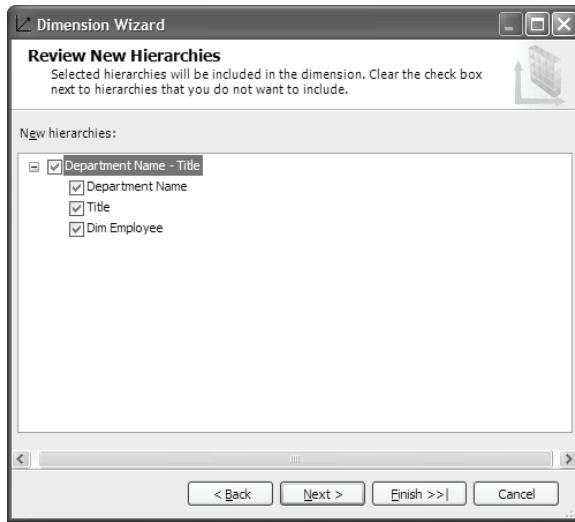

Figure 3.21 The Dimension Wizard can detect useful multilevel hierarchies.
11. Click Next to let the Dimension Wizard explore the dimension data and discover potential multilevel hierarchies in the Detecting Hierarchies step. When it is done, click Next to advance to the Review New Hierarchies step (Figure 3.21).